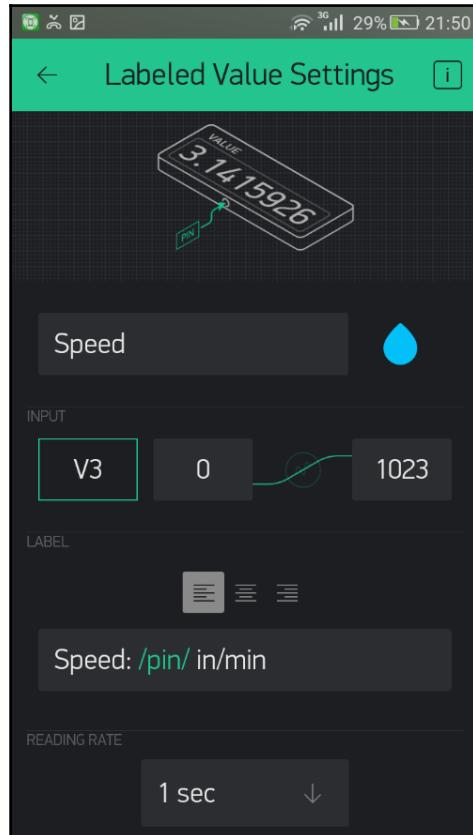

Figure 3.11: Configuring the Labeled Value widget for Speed
8. Repeat the preceding steps to add another **Labeled Value** widget to display **Speed**. Configure it with virtual pin **V3** and change the **LABEL** as Speed: /pin/ in/min (Figure 3.11):